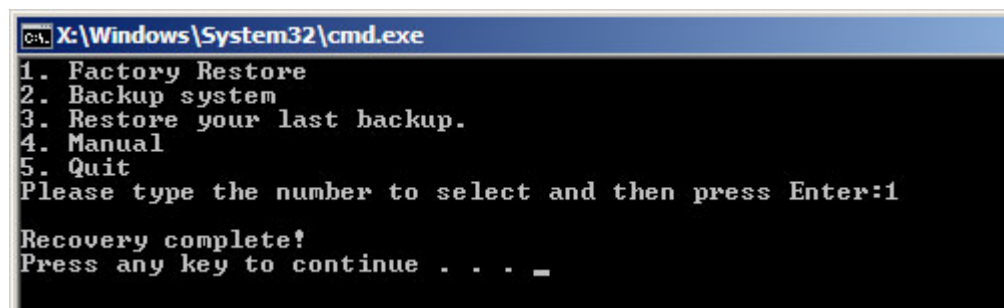

Figure B-37: Recovery Complete Window
Step 3: The screen is shown in **Figure B-37** appears when completed. Press any key to reboot the system.